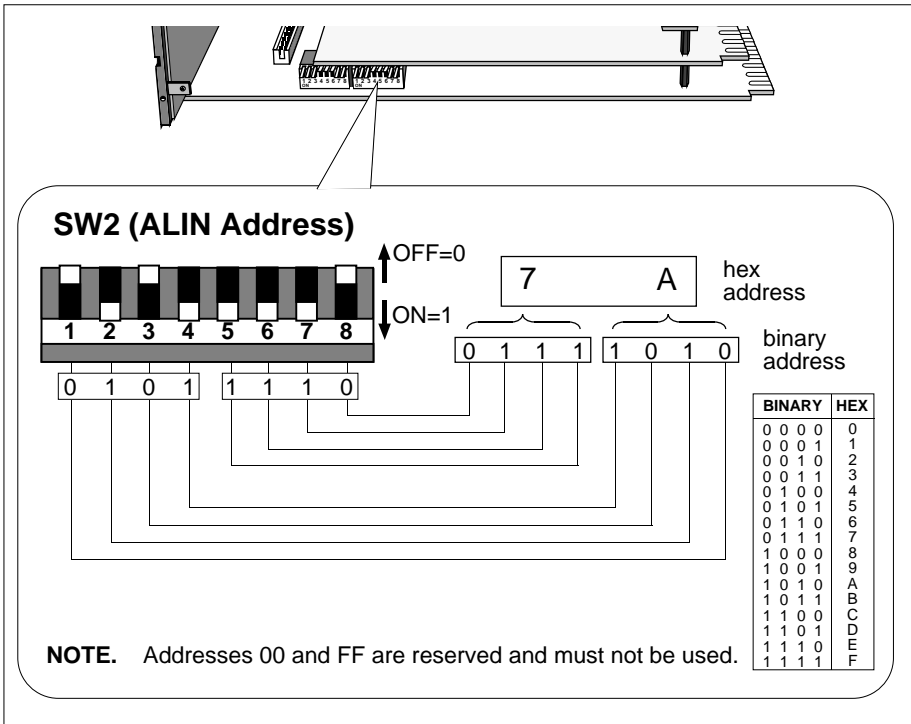

Figure 2-13 SW2 — ALIN address setup (example)
Figure 2-13 shows the ALIN address DIL switchbank 2, and an example setup (7A hex).
This bank of switches is used to set up the address of the T640 on the ALIN. Figure 2-13 shows how to set them up and read them, using the hexadecimal address 7A as an example. Note that switch 1 is the least significant bit, and switch 8 the most significant, i.e. they are in ‘reverse order’. **Note also that addresses 00 and FF must not be used.**
- 1 Withdraw the T640 from its sleeve and note the ALIN address (hex) set up on DIL switchbank SW2, on the motherboard. (Refer to Chapter 2 for details on how to carry out these operations, and the precautions to be taken. How to read SW2 is explained in Figure 2-13 in the *Hardware configuration* section.)